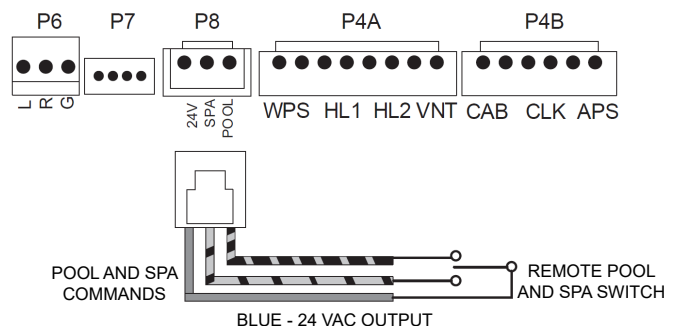

Figure 58. 3-Wire Remote Harness Installation
5. Install the "Remote Interface Harness" to the P8 connector and turn power ON to the heater. See **Figure 58**.